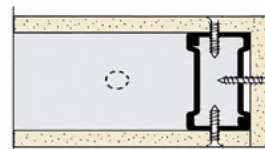

Figure 2 – Wall End (Box Stud)
- C. Insert stud at an angle and twist to lock as shown in the figure below. The friction fit will hold the stud in place. Space studs at 600mm (where standard = max. 610mm). Make sure that all the studs are facing in the same direction. For corners, junctions and wall ends, it is recommended to use extra studs and “boxing” the studs as shown in Figure 2. Please note that there are several opinions raised in securing the studs to the tracks, although it is not stated in ASTM, it is in the designers and contractors discretion.